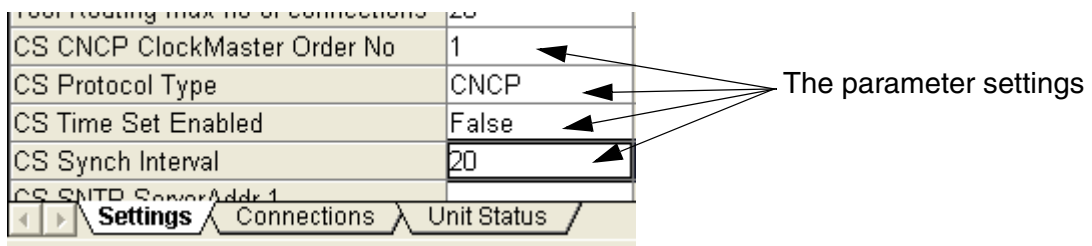

Figure 85. The parameter settings under the Settings tab in the hardware editor.
3. Set the following (four) parameters according to Figure 85.